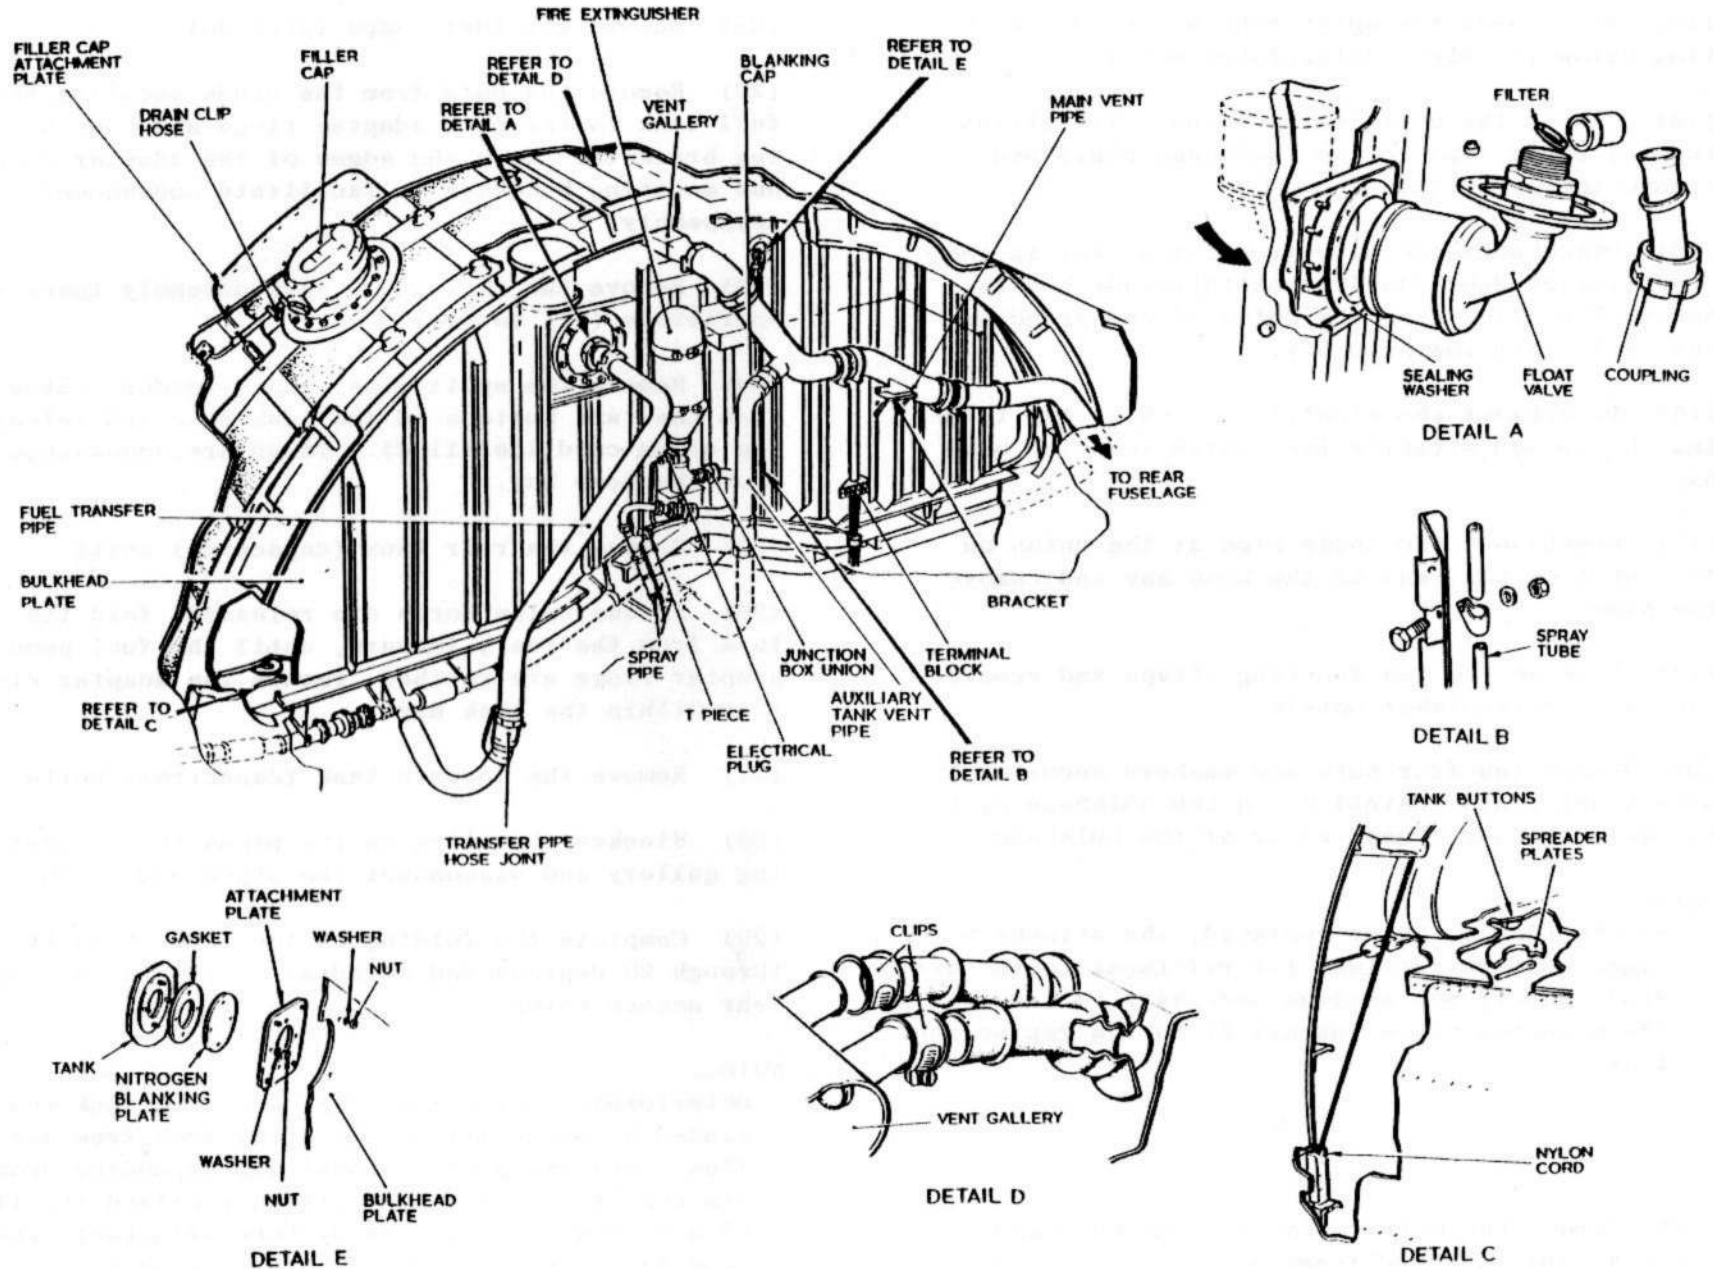

FIG. 10. No. 3 FUEL TANK REMOVAL
Removal (fig.10)
- ◀ 3. Ensure that the order of assembly of the nitrogen blanking assembly is as shown in fig.10 detail E; the position of the gasket in particular should be noted. Incorrect assembly will result in a fuel leak. ▶